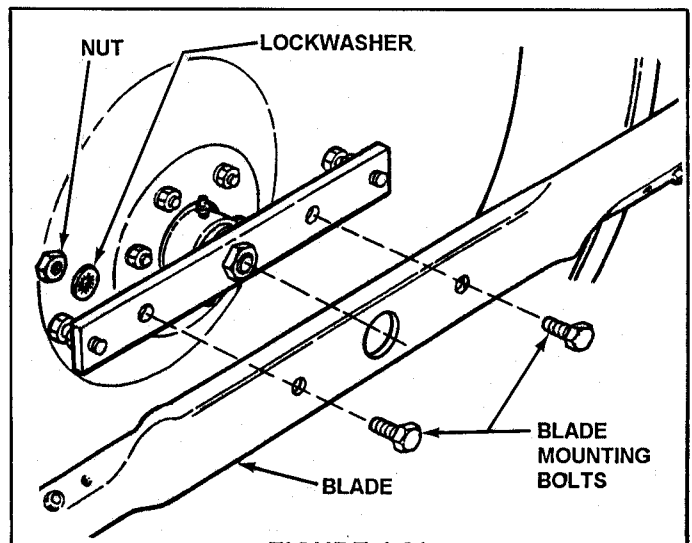

FIGURE 4.21
2. Remove blade. See Figure 4.21.
6. Reinstall blade. Refer to Figure 4.21. Torque blade mounting bolts to recommended range of 55 ft. lbs.